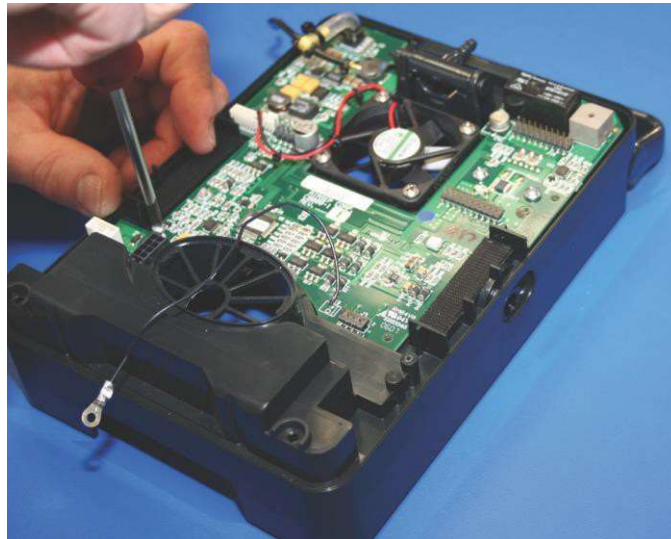

Figure 5.33
12. Remove six 4-20 self-tapping plastic screws. (Figure 5.33)